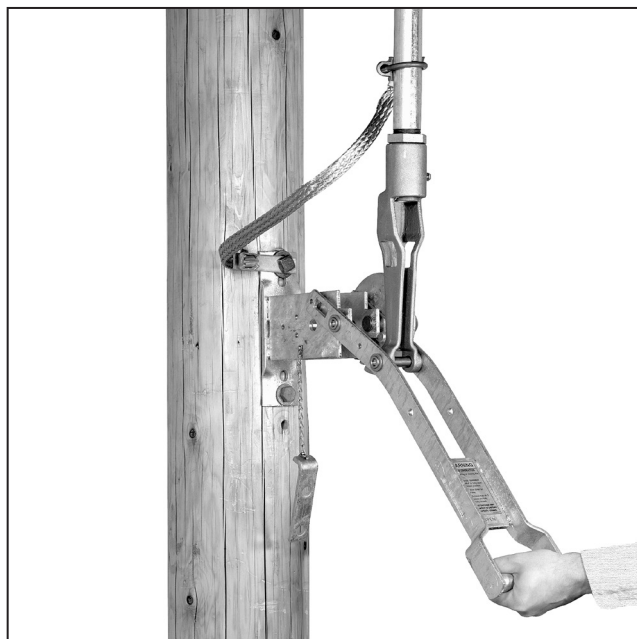

Figure 38. Swing the operating handle rapidly.
**STEP 31.** Swing the handle rapidly to the fully open or fully **Closed** position. See Figure 38. Always check that all three poles are fully open or fully closed.